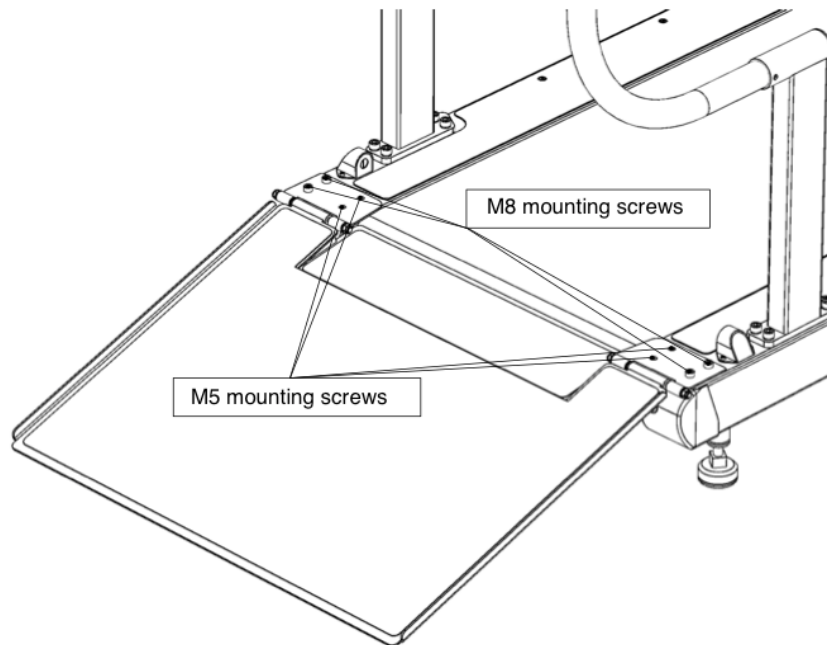

Figure 14 - Step 2 of installing the ramp on the treadmill
- Secure the ramp with the use of 4 screws, item [Ошибка! Источник ссылки не найден..12] with a 6 mm hex wrench and with 4 screws, item [Ошибка! Источник ссылки не найден..13] using a cross-point screwdriver (Figure 14).